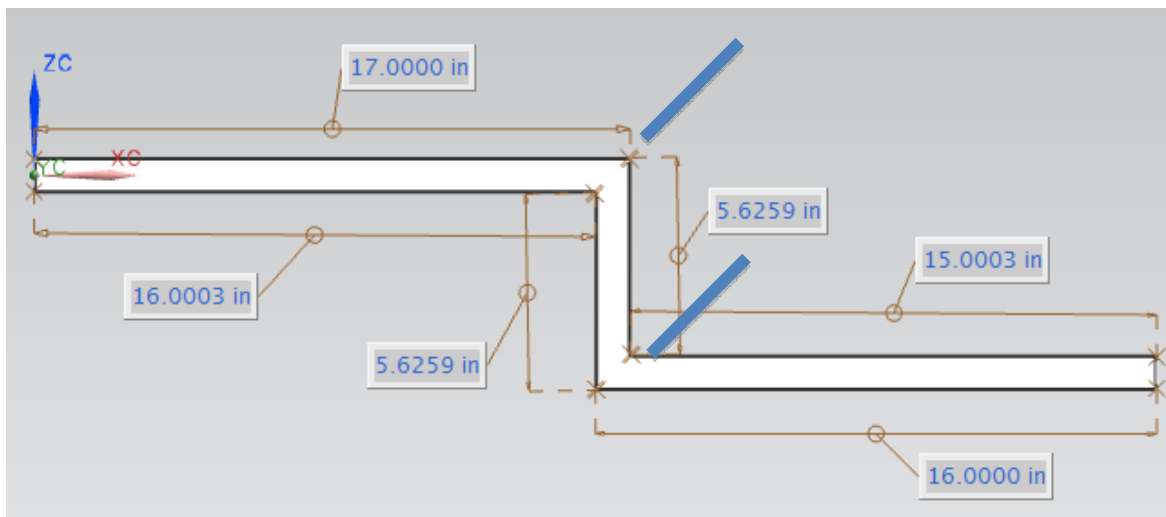
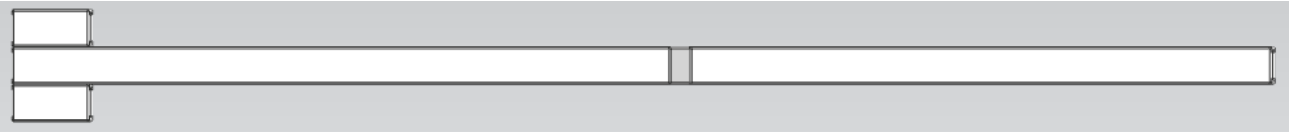

Figure 10. Treadle Arm diagram showing initial cuts and final assembly
Figure 11. Above view of final treadle knuckle position after weld
6. **Treadles:** To begin treadle construction, obtain both part 19(i) and 19(ii). Cut 45 degree angled cuts one at a time at the specified lengths of figure 10. The easiest means of creating an accurate cut is to a miter box cut at the 45-degree angle or the use of an adjustable angle drop saw. The blue lines on figure 10 represent the 45-degree cuts creating 90-degree joints that are welded to create the ergonomic drop for this design.
Once both treadles have been welded it is time to weld the previously cut treadle knuckles or part 18 to the longest end of the treadles. This is the left end of figure 10. The finished product of this is shown in Figure 11.